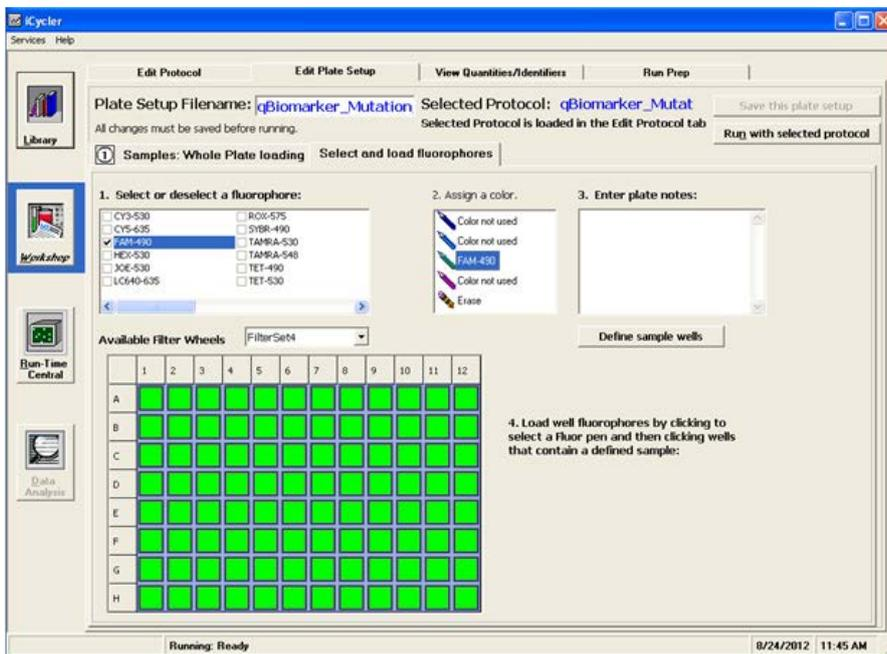

Figure 3. Plate setup (2).
- When finished loading samples, click on “Select and load fluorophores” (see Figure 3). Select “FAM” as the fluorophore by clicking the box next to the fluorophore in the “Select or Deselect a Fluorophore” box. “Assign a color” for FAM by clicking on one of the crayons. With the “FAM” crayon selected, load fluorophore to all wells by clicking the top left corner of the plate to select all wells at once. Enter “qBiomarker_Mutation_PCR_Array_Plate_Setup_Template” as the new filename in the “Plate Setup Filename” box.